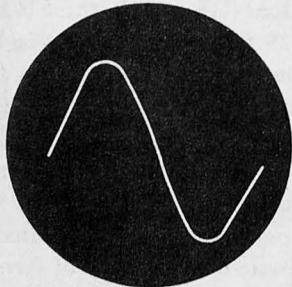
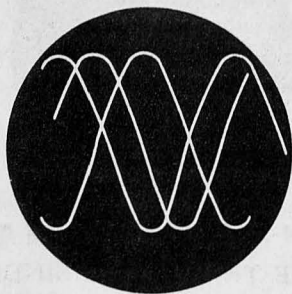
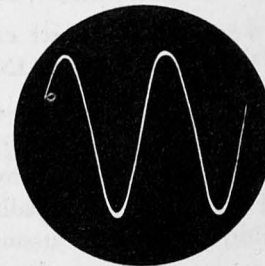
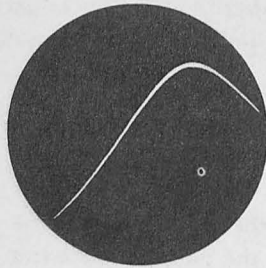

Figure 4-3. Adjustment Pattern
Figure 4-4. Adjustment Pattern
Figure 4-6. Adjustment Pattern
Figure 4-7. Adjustment Pattern
(d) Gradually adjust the SYNC AMPLITUDE control until the pattern locks in and is stationary as shown in figure 4-3. Figure 4-4 shows the pattern approximately as it will look before the wave "locks in." The start of the pattern may be shifted from the positive to the negative peak by turning the SYNC AMPLITUDE control from the positive side to the negative side.
(f) Gradually adjust the SYNC AMPLITUDE control until the pattern locks in and is stationary as shown in Figure 4-3. Figure 4-4 shows the pattern approximately as it will look before the wave locks in. The start of the pattern may be shifted from the positive to the negative peak by turning the SYNC AMPLITUDE control from the positive side to the negative side.
(e) Gradually adjust the SYNC AMPLITUDE control until the pattern locks in and is stationary as shown in figure 4-3. Figure 4-4 shows the pattern approximately as it will look after the wave locks in.
When the foregoing procedure results in synchronizing one cycle of the sine wave on the screen of the scope, the sweep frequency is equal to the frequency of the wave under observation. If, by turning the SWEEP VERNIER control in the direction of lower frequency, two complete sine waves appear on the screen, the sweep is then half of the observed frequency. The operator should practice using the SWEEP RANGE and SWEEP VERNIER controls by adjusting the sweep frequency to display two or more complete cycles of the sine wave. Two complete cycles of a sine wave are shown in figure 4-6. Multiples of the pattern shown in figure 4-3 can be displayed by the following procedure:
b. USE OF THE X AND Y GAIN CONTROLS.— If the X GAIN is increased to maximum, the horizontal deflection can be expanded to the point where part of the horizontal deflection is off the screen, or outside the limits of the three-inch face of the tube. In this way, a waveform can be magnified until only a portion of the pattern fills the display area on the tube face. This procedure can be used to observe a possible flattening of the peaks of the waveform shown in figure 4-6. Figure 4-7 shows the waveform of 4-6 magnified in this manner. If the portion of the wave that one desires to observe is spread off the screen in this process, it can be brought back once more by use of the X POSITION